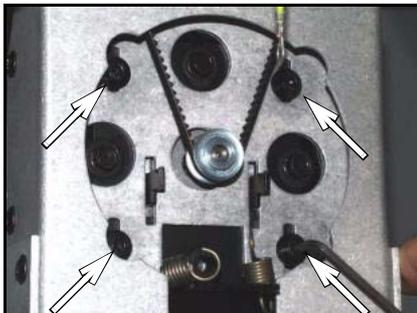

Fig. 83 Loosen motor screws
- 5 Unhook the belt tension springs, loosen the hex head motor screws, and take the belt off the motor gear. (Fig. 83)
- 3 Unhook the motor springs and loosen the hex-socket motor screws. (Fig. 83) Push the motor up and remove the belt from the motor gear.